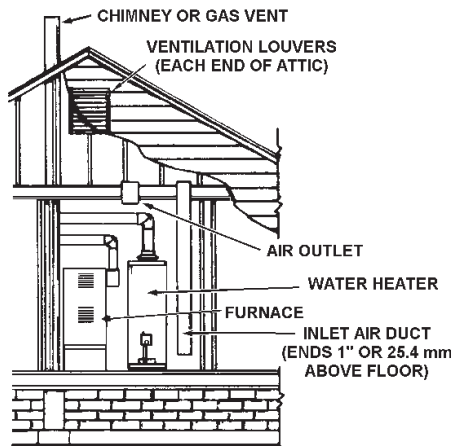

FIGURE 13.
2. When communicating with the outdoors through vertical ducts, each opening must have a minimum free area of 1 square inch per 4,000 Btu per hour (5.5 cm²/kW) of total input rating of all equipment in the enclosure, see Figure 13.